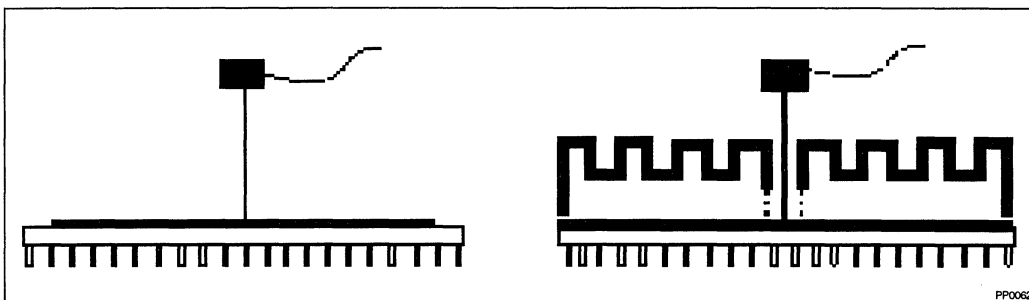

Figure 26-1. Technique for Measuring T_C .
To verify that the proper T_C (case temperature) is maintained, it should be measured at the center of the package top surface on the heat spreader (opposite of the pins). The measurement is made in the same way with or without a heat sink attached. When a heat sink is attached a hole (smaller than .150" diameter) should be drilled through the heat sink to allow probing the center of the package. See Figure 26-1 for an illustration of how to measure T_C .
- The thermocouple should be attached at a 90-degrees angle as shown in Figure 26-1.